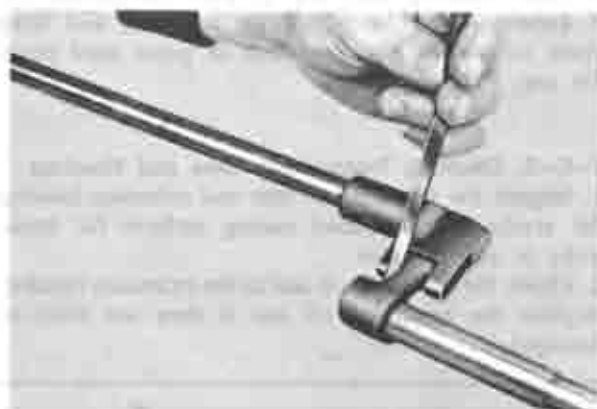

Fig. 7-13 Checking control rod
2. Check the clearance between the control lever and the gate of the shift rod, as shown in Fig. 7-13. If this clearance exceeds 0.8 mm (0.031 in), replace the control lever or the shift rod.